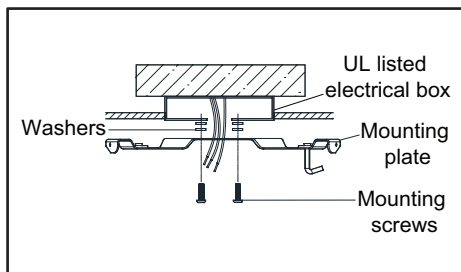

Figure 5
2. Securely attach the mounting plate to the outlet box using the two screws supplied with the outlet box. Pull the 120-volt supply wires (black, white and ground wires) out of the outlet box and through the hole in the mounting plate and lay them to the side. (Figure 5)